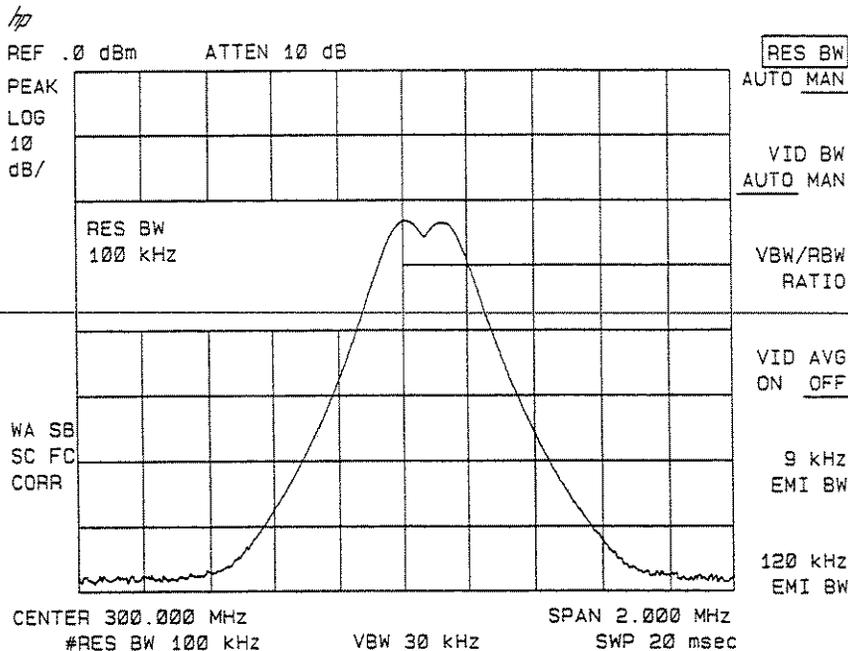

Figure 2-2. Resolving Signals of Equal Amplitude
Generally, to resolve two signals of equal amplitude, the resolution bandwidth must be less than or equal to the frequency separation of the two signals. A dip of approximately 3 dB is seen between the peaks of the two equal signals, and it is clear that more than one signal is present. See Figure 2-2.
- Since the resolution bandwidth must be less than or equal to the frequency separation of the two signals, a resolution bandwidth of 100 kHz must be used. Change the resolution bandwidth to 100 kHz by pressing **BW** 100 **kHz**. Two signals are now visible as in Figure 2-2. Use the knob or step keys to further reduce the resolution bandwidth and better resolve the signals.